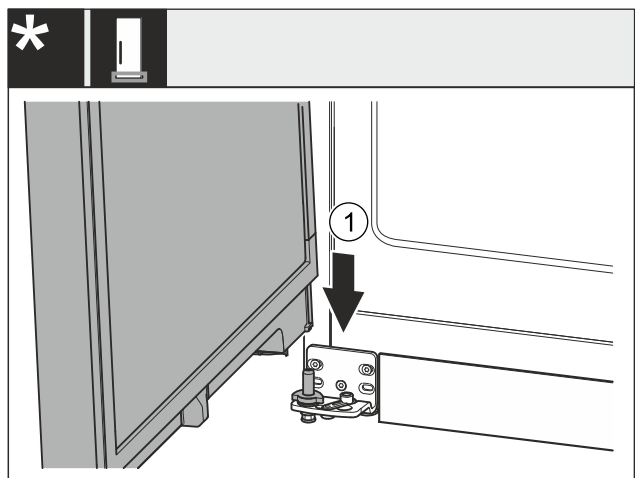

Fig. 29
- Lower the door onto the bottom bearing bolt Fig. 29 (1).